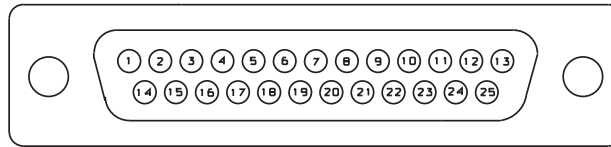

Figure 2-2: Wiring the 25-pin Remote Interface Connector
A) Connect two outputs from your station remote control system to the REMOTE INTERFACE connector on the rear panel of the 9300, according to the wiring diagram in *Figure 2-2* on page 2-3.
Optically isolated remote control connections are terminated in a type DB-25 male connector located on the rear panel. It is wired according to Figure 2-2 on page 2-3. To select the desired function, apply a 5-12V AC or DC pulse between the appropriate REMOTE INTERFACE terminals. The (-) terminals can be connected together and then connected to ground at pin 1 to create a Remote Common. A current-limited +12VDC source is available on pin 25. If you use 48V, connect a 2kΩ ±10%, 2-watt carbon composition resistor in series with the Remote Common or the (+) terminal to provide current limiting.